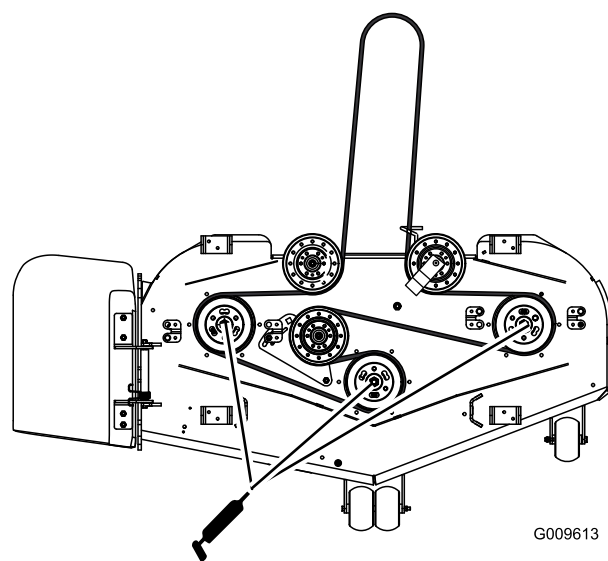

Figure 34
3. Grease the fittings on the 3 spindle bearings (Figure 34).